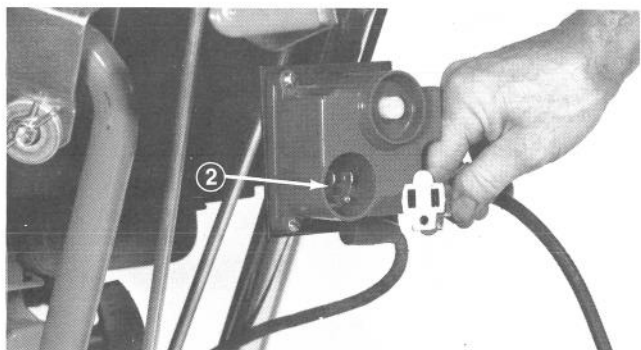
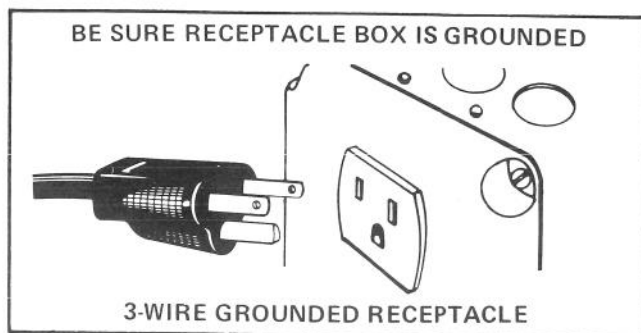

Figure 7
Figure 8
Use only a 3-wire (grounded) receptacle as shown (Fig. 8) for starting snowthrower. Failure to observe the above could result in electric shock.
1. Insert the female end of the 3-prong cord into the male receptacle on the starter control (Fig. 7). Attach the male end of the cord into a 115VAC electrical (grounded) receptacle (Fig. 8).
Plug extension cord only into outlet which is a grounded type (Fig. 8).